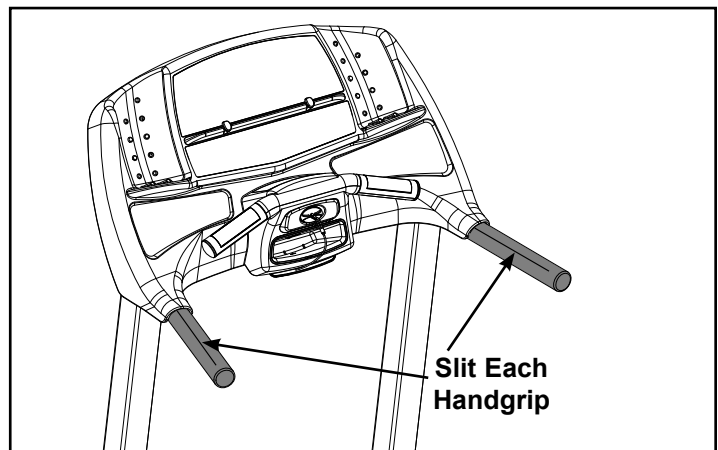

Figure 40
- A. Using a razor blade, carefully slit each hand grip that is on the treadmill. See Figure 40.